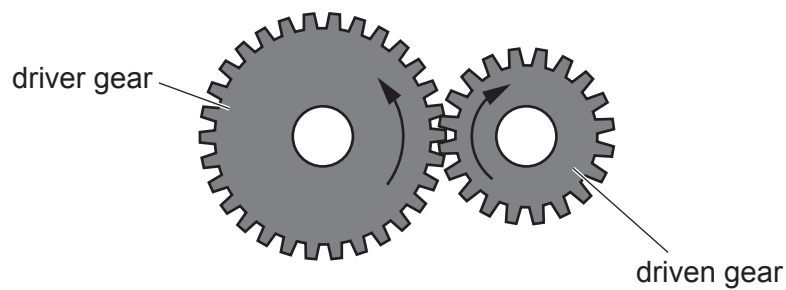

Fig. 9
- (c) (i) **Fig. 9** shows a simple gear train.